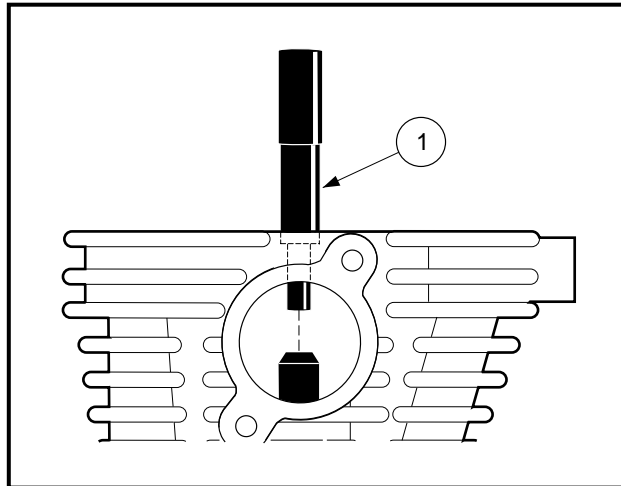

Figure 13-19 Valve Guide Removal
1. With the combustion chamber side of the head facing up, drive the guide out of the head with a valve guide arbor (1) (Club Car Part No. 101641202) (**Figure 13-19, Page 13-14**).